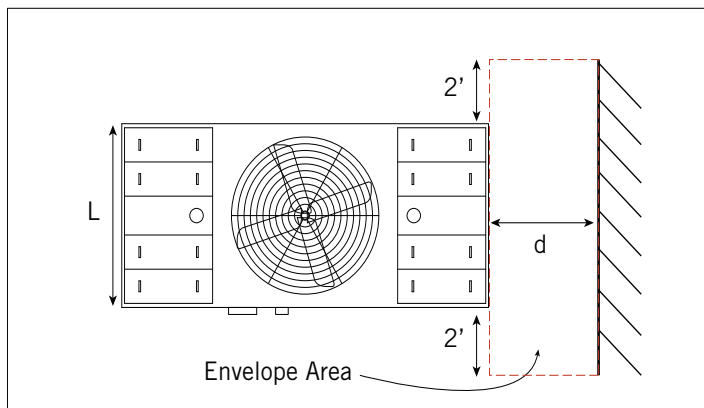

Figure 2a. Plan View of a Dual Air Intake Unit Adjacent to Wall
2. **Air Intake Requirements:** Should it be necessary to install a unit with the air intake facing a wall, provide at least distance “d” between the air intake and the wall, as illustrated in Figures 2a and 2b.
The envelope area as illustrated on **Figures 2a** and **2b** is $[(L + 2 + 2) * d] + [2(H+h) * d]$, where: